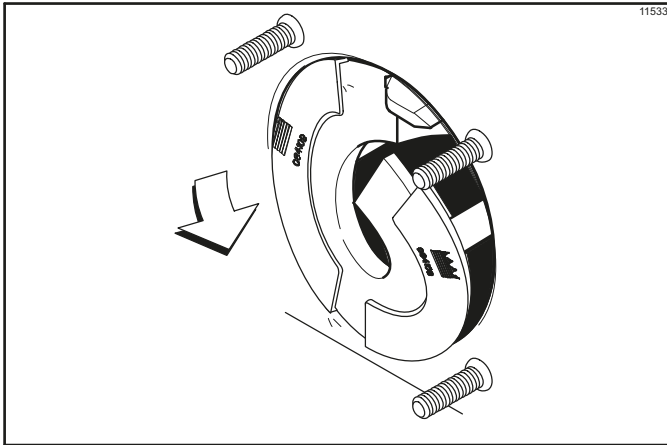

Figure 6-7
- Slide the beater assembly the rest of the way into the freezing cylinder. Make sure the beater assembly is in position over the driveshaft by turning the beater slightly until the beater is properly seated. When in position, the beater will not protrude beyond the front of the freezing cylinder. (See Figure 6-7.)